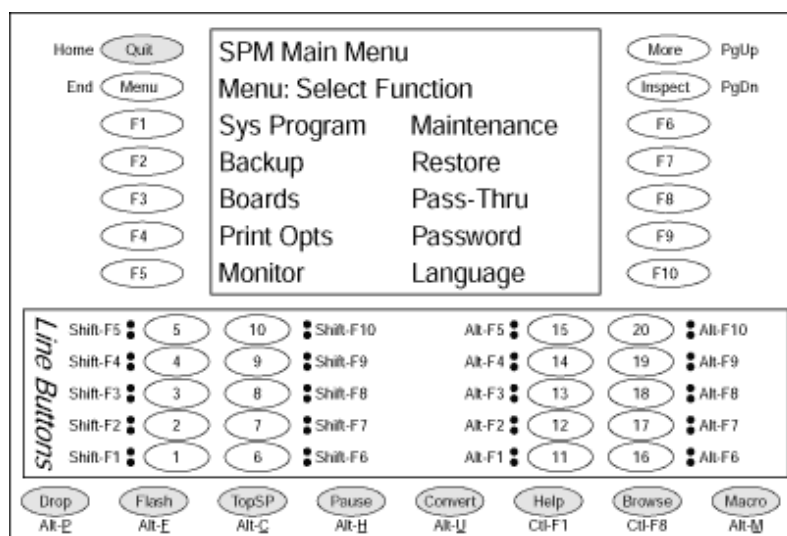

Figure 3-5. Standard SPM Mode Display
6. In the left-hand panel of the WinSPM main screen, click the Standard SPM icon. The system programming console appears in the emulation window and the SPM Main Menu appears in the console display area (Figure 3-5).